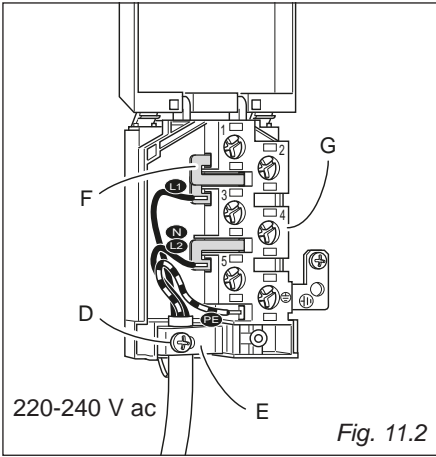
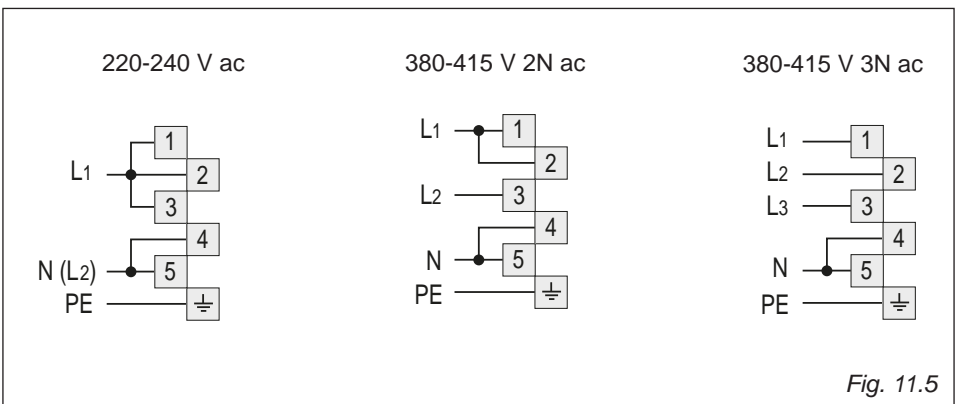

Fig. 11.2
Fig. 11.5
- Unscrew the screw “D” and open completely the cable clamp “E” (figs. 11.2 - 11.3 - 11.4).
- Position the U bolts “F” onto terminal board “G” (figs. 11.2 - 11.3 - 11.4) according to the diagrams in fig. 11.5.